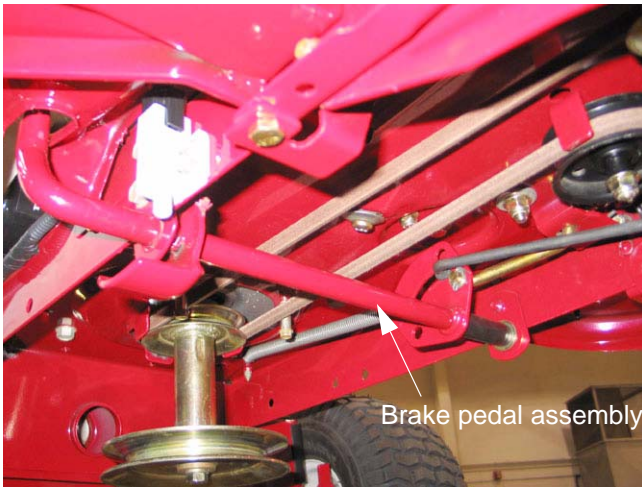

Figure 6.24
1. Remove the cutting deck to gain access to the linkage. See Figure 6.24.